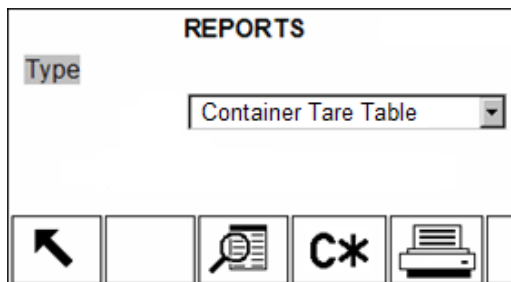

Figure B-4: View Reports Screen
1. Press the REPORTS soffkey . The Reports Selection Screen displays (Figure B-4). Only tables that have been enabled in setup are shown. The Tare Table will always be shown.